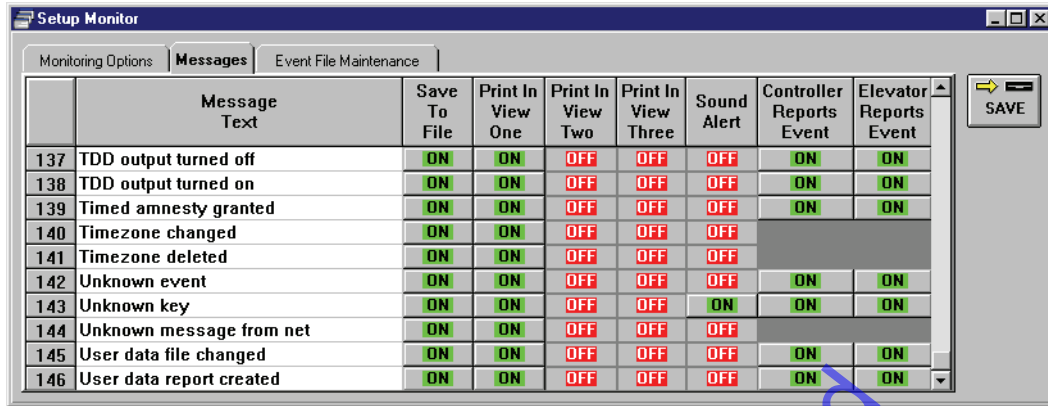

Figure 5-7: Sound Alert Setup - Unknown Key
8. Click in the cell. It will change from an  button to an  button (see Figure 5-7 on page 20 of this section).